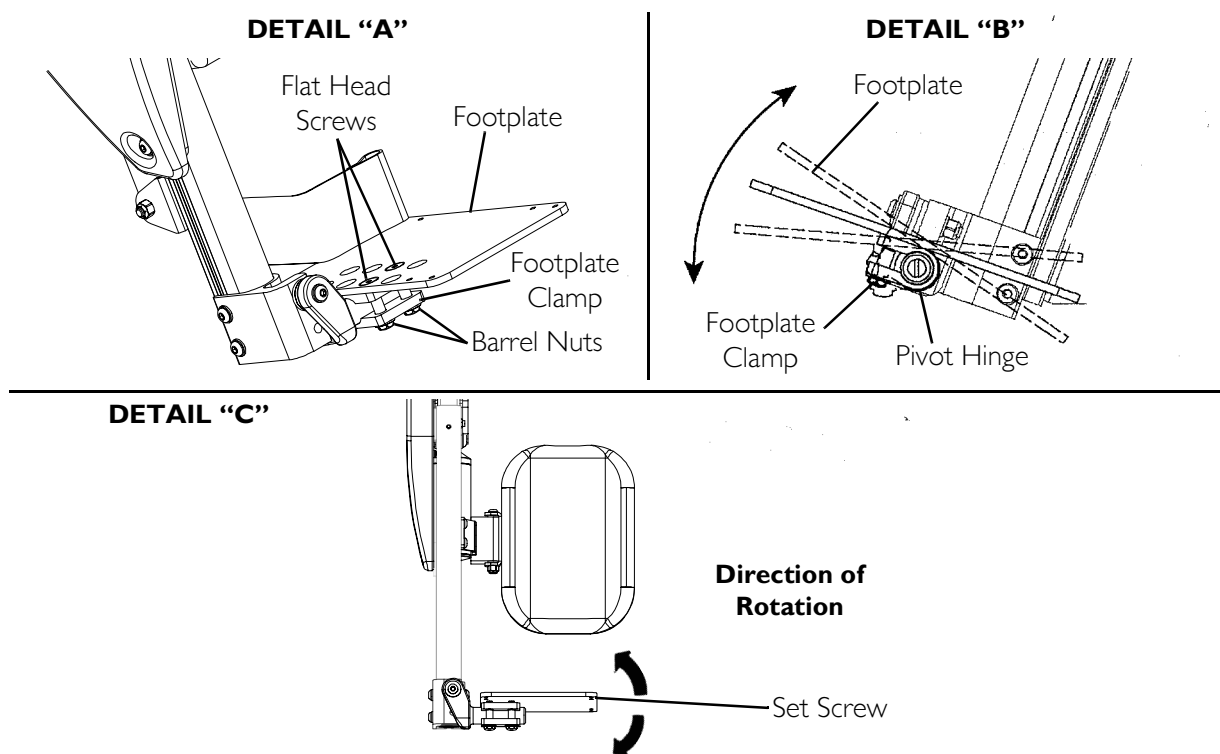

FIGURE 7.4 Adjusting the Footplate Angle
NOTE: For this procedure, refer to FIGURE 7.4 on page 62.
1. Loosen, but DO NOT remove, the two flat head screws and the two barrel nuts that secure the footplate to the footplate clamp. Refer to Detail "A" in FIGURE 7.4.
2. Rotate the footplate clamp on the pivot hinge until the desired angle is achieved. Refer to Detail "B" in FIGURE 7.4.